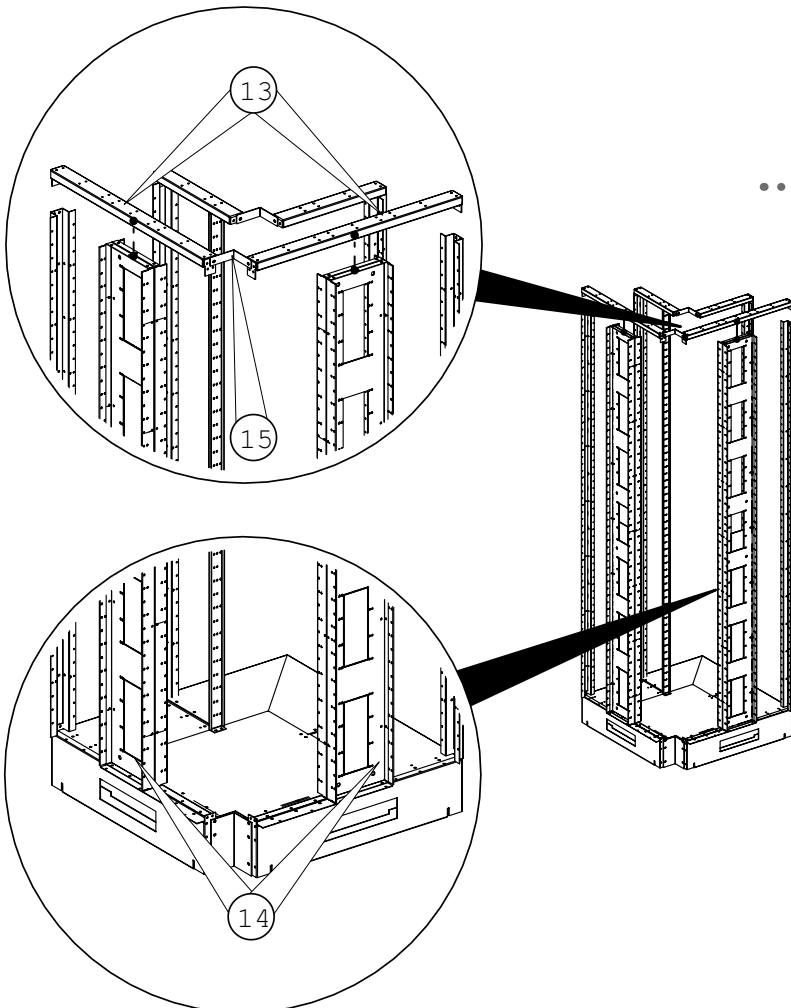

Fig. 2.51. Fastening frame plate assemblies, intermediate profiles, and jointing angle.
Then, frame plate assemblies (14) are installed to the corner structure, and intermediate profiles are fastened at the top. The intermediate profiles are connected at the front using a jointing angle (15) as shown in Fig. 2.51.